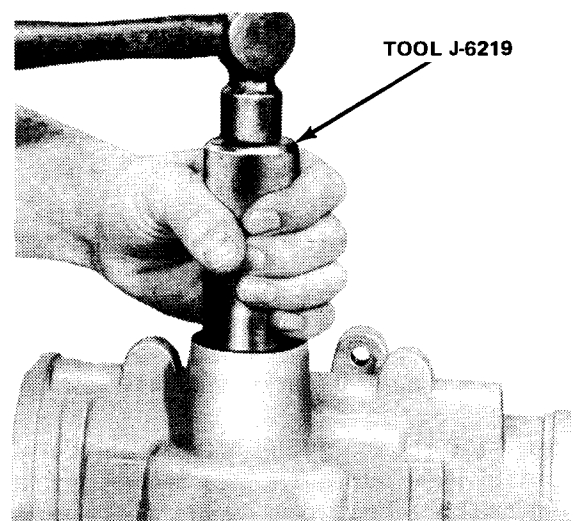

Fig. 11-88 Seating Pitman Shaft Seal in Housing
- (3) Use Seal Seating Tool J-6219 (fig. 11-88) to seat seal and washer far enough to provide clearance for second seal and backup washer. Make sure seal does not bottom in counterbore.
- (4) Install double lip seal and second backup washer using Seal Seating Tool J-6219. Make sure both seals are installed with lips toward gear housing.
- (5) Install retaining ring.
- (6) Assemble thrust bearings and races on worm of assembled worm and valve.